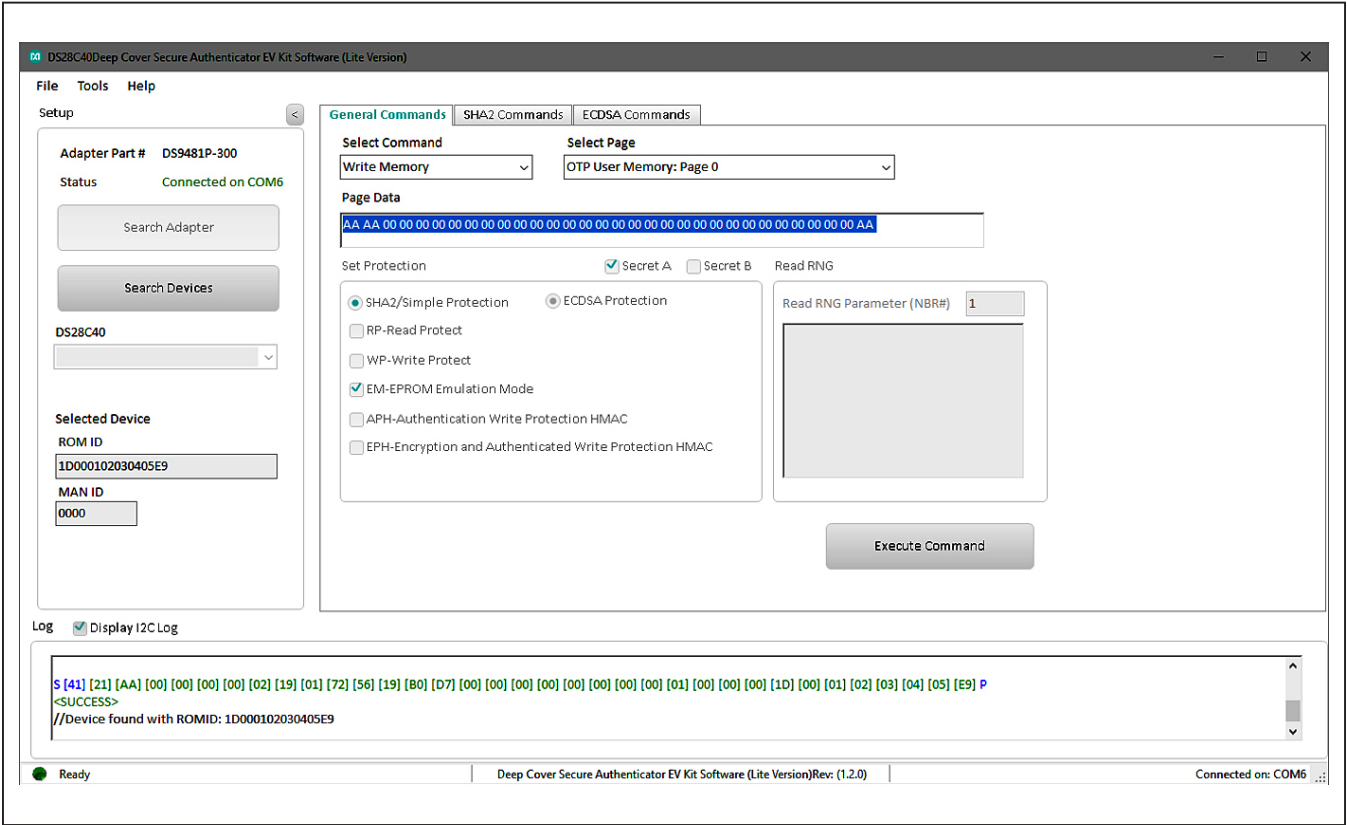

Figure 14. Write Data
3) Write the desired data on the **Page Data** textbox (Figure 14).